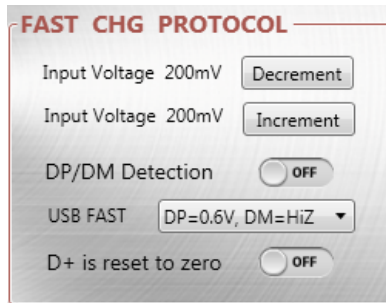

Figure 28: Fast Charge Protocol Setting
- Fast charge protocol control (see Figure 28).